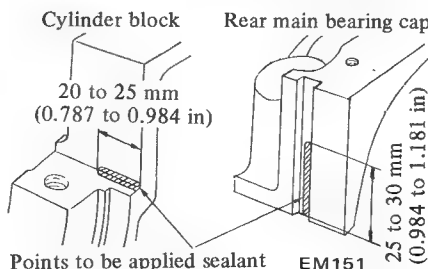

Fig. EM-77 Applying sealant (Main bearing cap and cylinder block)
- (3) Main bearing cap and cylinder block: Each side of rear main bearing cap and each corner of cylinder block. See Figure EM-77.
- a. Apply sealant to each side of rear main bearing cap and each corner of cylinder block as shown in Figure EM-77.